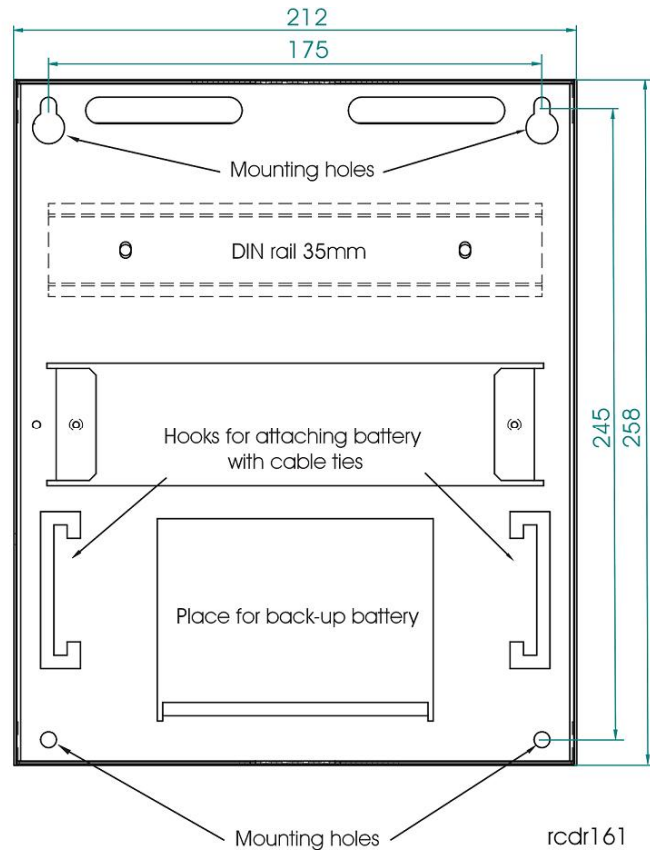
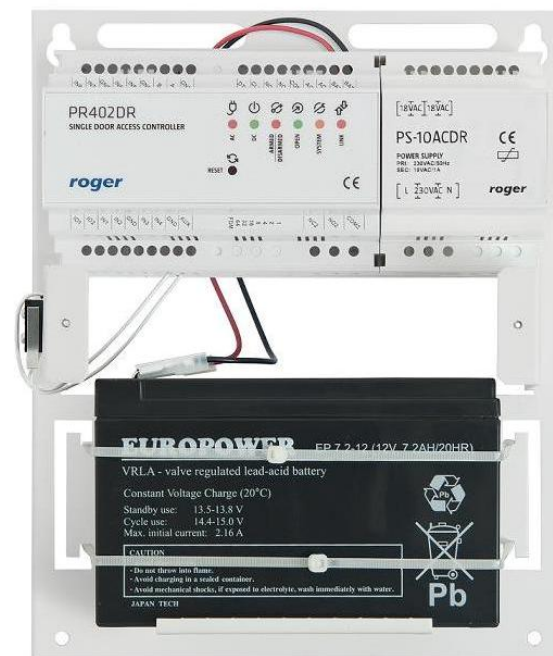

Fig. 1 Schematic view of internal space of enclosure with key points marked
Fig. 2 Internal view of enclosure with installed PR402DR access controller, power supply module and back-up battery fastened with cable ties
- Put back-up battery in its place (see Fig.1) and then attach it to the enclosure with enclosed cable ties, using special hooks of the enclosure. Both cable ties should be connected in a loop maintaining the battery in stable position (see Fig.2). Check if the battery is firmly installed.